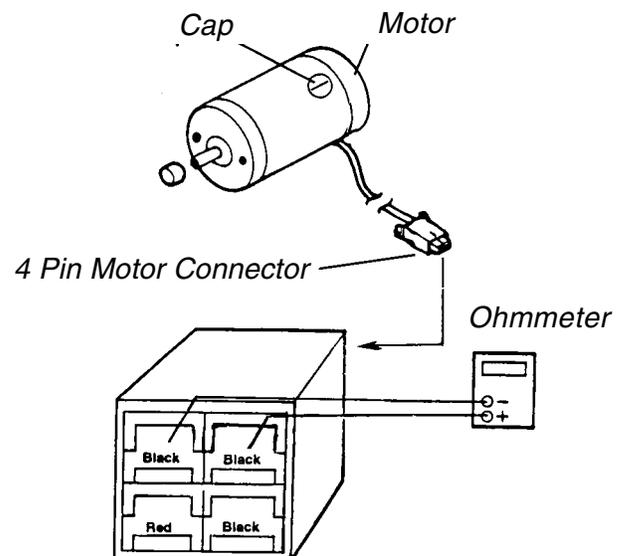

FIGURE 5 - ELECTRO-MECHANICAL PARKING BRAKE TEST
**ELECTRO-MECHANICAL PARKING BRAKE TEST (FIGURE 5)**
3. Measure the resistance between the two (2) brake contacts. A normal reading is 100 ohms ( $\Omega$ ). A reading of 0 ohms (W) or a very high reading; i.e., MEG ohms or O.L. (out of limit) indicates a shorted brake or an open connection respectively. If either condition exists, send the motor to Invacare Technical Service for inspection/repair.